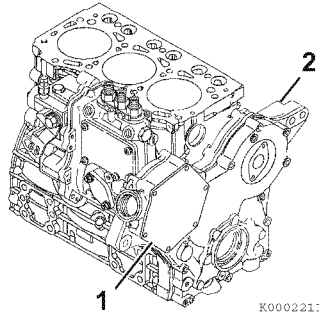

Figure 7-10
- Remove the fuel injection pump drive gear access cover (Figure 7-10, (1)) from the gear case cover (Figure 7-10, (2)).